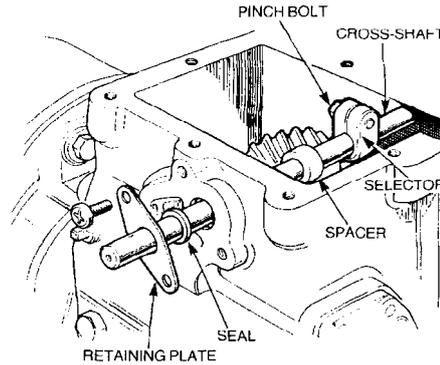

Figure 191 Removing the Transfer Selector Cross-shaft
- ii.** Remove the two screws securing the retaining plates fitted to both ends of the cross-shaft and remove the two plates (Figure 191).
- jj.** Loosen the pinch bolt securing the selector to the cross-shaft, withdraw the shaft, selector and spacer. Remove and discard the two seals (Figure 191).
- u. Position the cross-shaft selector in the transfer case and insert the cross-shaft and spacer engaging the selector (Figure 191).